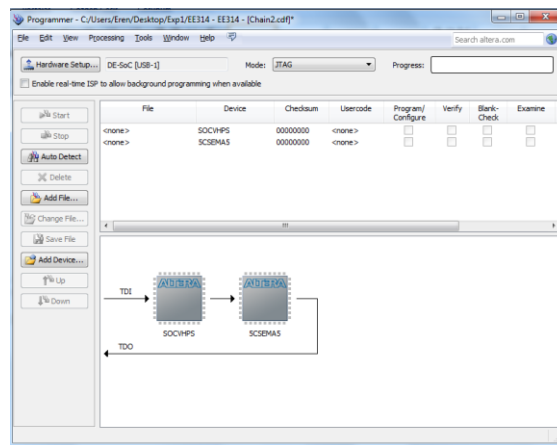

Fig. 15: Programmer window
- H.4) Click on Auto Detect and then click on **5CSEMA5** and click on OK. Click **Yes** on the pop up window. After clicking **Yes** the screen should be seen like Fig. 15.